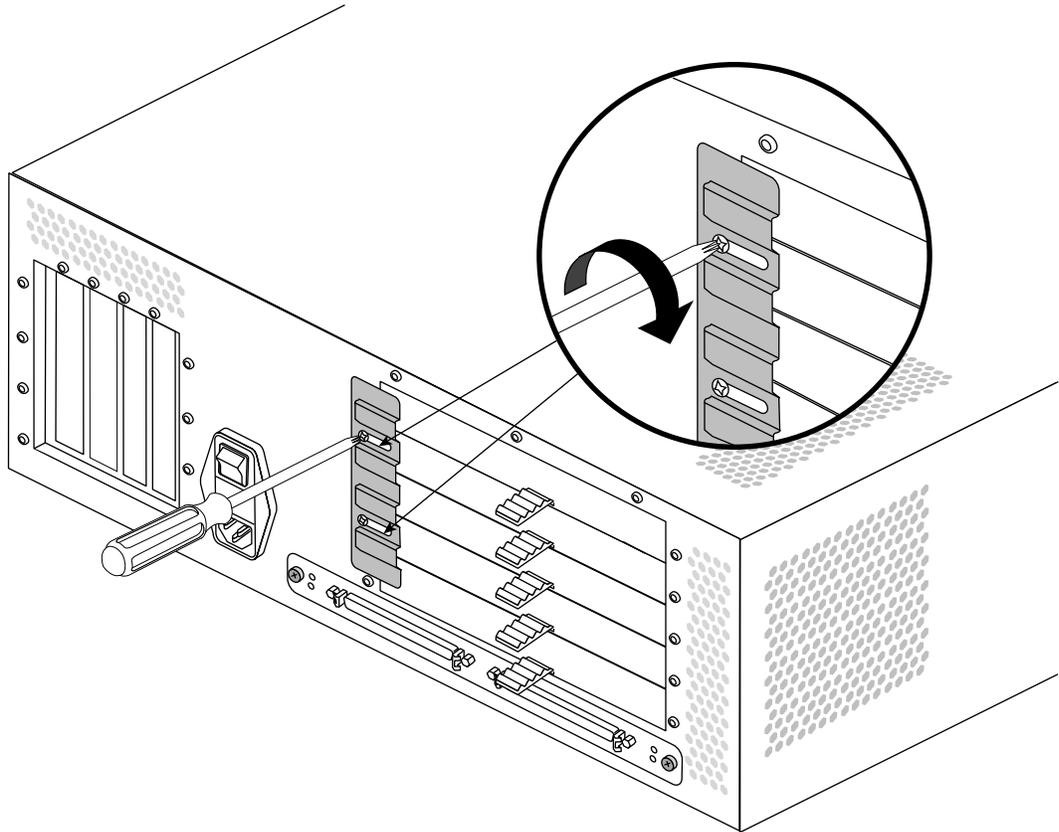

Figure 2-25 Tightening the XIO Retaining Plate Screws
7. Tighten the screws on the XIO board retaining plate, as shown in Figure 2-25.